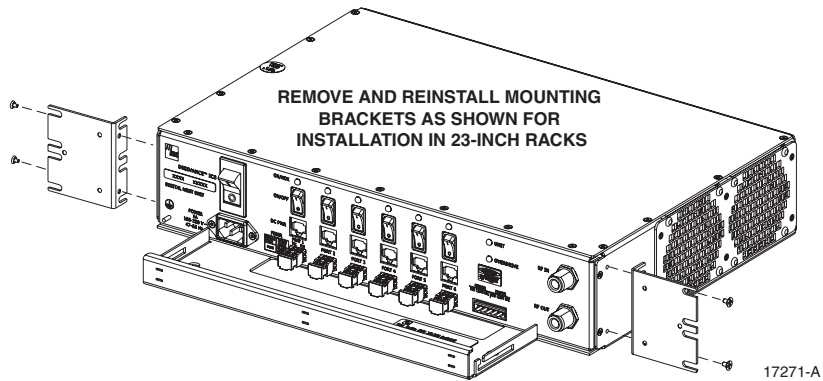

Figure 13. Installing the Mounting Brackets for 23-Inch Rack Installations
3. Reinstall both mounting brackets so the long side of the bracket is flush with the DHU front panel as shown in Figure 13. Use the screws removed in step 2 to re-attach the brackets to the DHU enclosure.